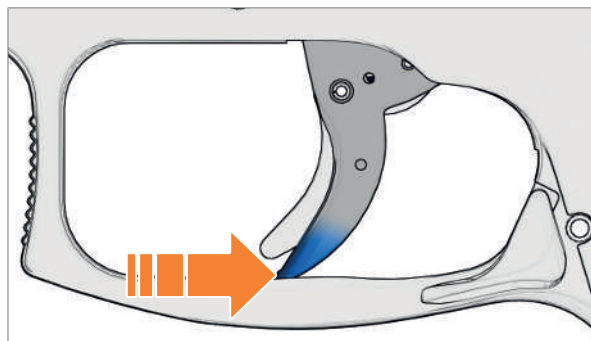

Fig. 20: Push trigger towards the rear
1. Push trigger towards the rear, but do not actuate the trigger safety when doing so (Fig. 20).